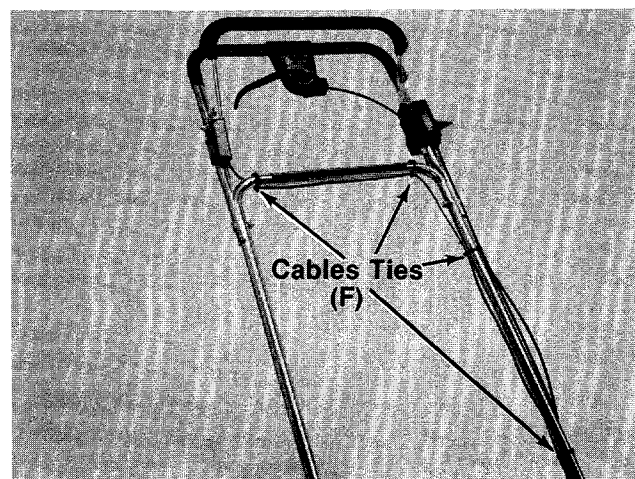

FIGURE 12.
18. Secure all control cables to upper and lower handles with cable ties (F). See figure 12.